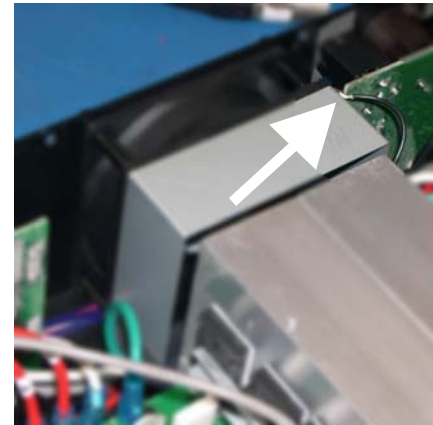

Figure 4. The black ground wire mounts to one of the screws, between the fan and the wind guide.
13. Align the mounting holes of the wind guide, fan, chassis, and fan guard. Also make sure the small black ground wire's lug terminal is in place between the fan and the wind guide (Figure 4). Reattach them all using the same four screws as before. Tighten them only to finger tightness so that the fan frame is not deformed.